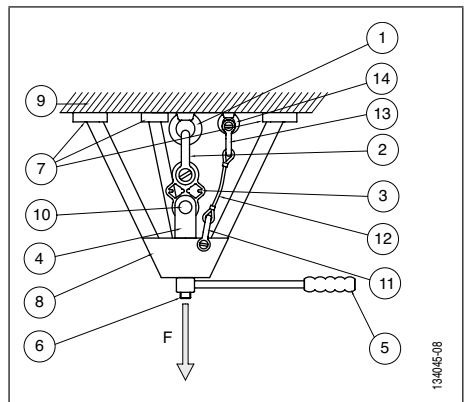
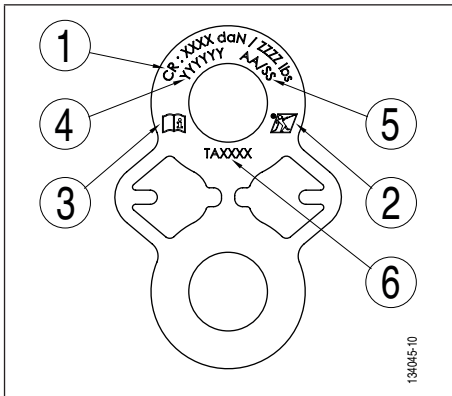
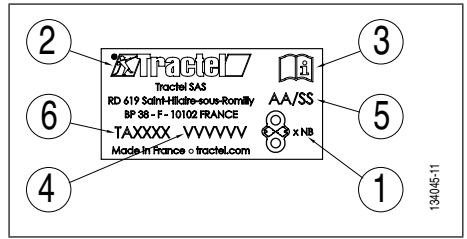

Fig. 6
Fig. 8
Fig. 9
- 1 manually-operated loaded device, tripod type (see Fig. 6, page 5),
- 1 safety device to secure the loading device in the event of shearing of the anchor point tested, comprising of (see Fig. 6, page 5):
- 1 safety sling of appropriate length (see Fig. 6, page 5, sections 4.2. Diagram and 4.3. Checks before installation),
⚠ DANGER: To test an anchor point using the TA test plate, the operator must use a manually activated tripod loading device specifically designed and sized for placing under traction load without risking the anchor point to be tested (Fig. 6, page 5) or any other apparatus placed under a load in traction of the TA test plate especially designed and sized to be used in complete safety.
Refer to Fig. 6 for the procedure detailed below.
All of the procedure described below relates to Fig. 6. Refer to Fig. 8, page 13, for the procedure detailed below.
1. Gradually increase the load by acting on the loading device (Fig. 6, page 5, item 8). The operator must continuously observe the plate in order to stop the loading operation immediately on shearing of the 'S' section of the plate (Fig. 9).
Refer to *Fig. 6, page 5*, for the procedure detailed below.